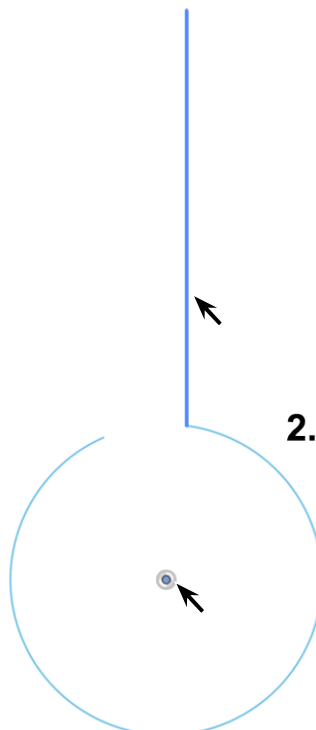
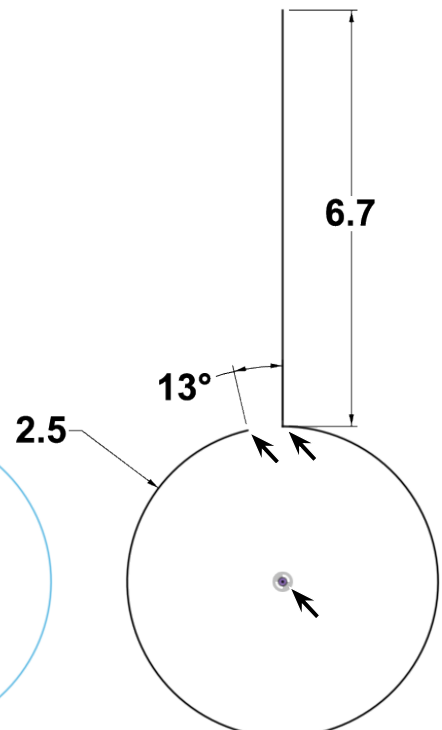

Fig. 4
Fig. 5
Step 6. Click **Coincident**  in the Constraints area of toolbar and click **vertical line and Origin**, Fig. 4.
Step 7. Click **Dimension**  (D) on the toolbar.
Step 8. Add dimensions, Fig. 5. To dimension angle between the two arc endpoints, **click arc endpoint, Origin**  and **other arc endpoint**. Move the cursor and click to place dimension. Key in 13 and press ENTER.